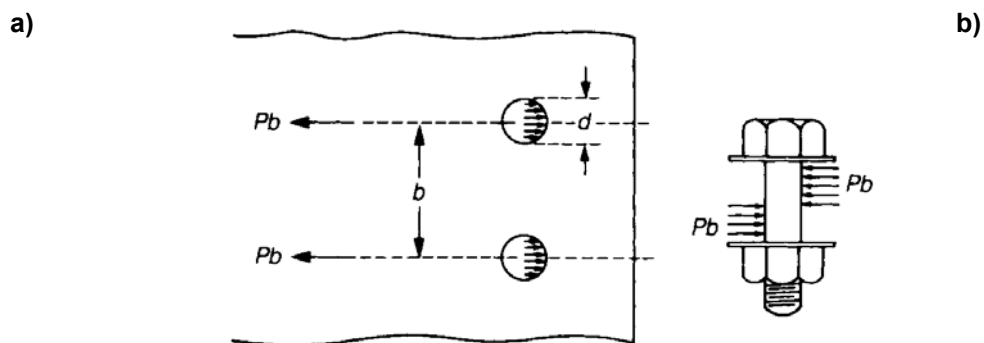

Figure 3.3. (a) Bearing pressure on the holes of the upper plate.
(2) The bearing pressure between the bolts and the plates may become excessive; the total bearing load taken by a bolt is Pb , Figure 3.3, so that the average bearing pressure between a bolt and its surrounding hole is